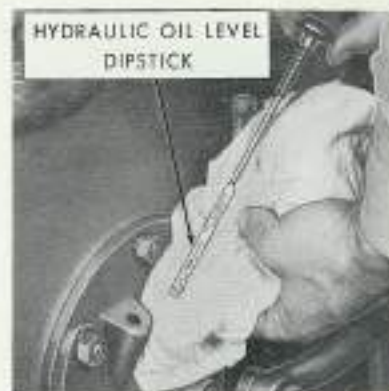

Figure 22
**Hydraulic System Dipstick:** Check the level of the hydraulic oil on the dipstick, shown in figure 22, and maintain at the full mark with the proper lubricant as recommended under "SERVICE EVERY 600 HOURS." *When checking the hydraulic oil level, always be sure all hydraulic cylinders are fully extended.*